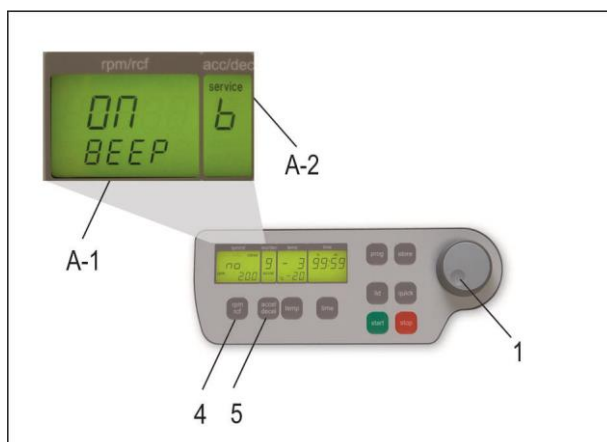

Figure 12
Proceed as illustrated under point 1.9.1 to enter this program mode, press the key "accel/decel" (5). In the display "accel/decel" (A-2) flashes the word "service". Select the letter "b" with the adjustable knob (1). As a result appearing in the display "rpm/rcf" (A-1) the word "ON/BEEP". By pressing the key "rpm/rcf" (4) the keyboard sound (On) or (Off) can be turned on with the adjustable knob (1) (see Figure 12).